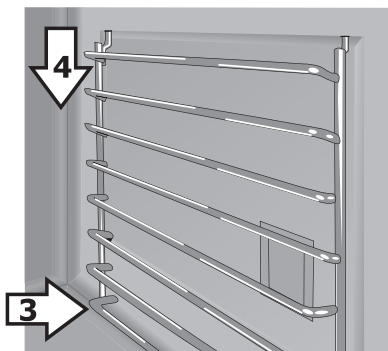

Figure 15: Ladder rack supports - bottom prongs
3. Once the upper prongs are in place, hold the oven rack support flush with the oven side and insert the bottom prongs into the bottom holes (Figure 15).
4. Slide the bottom prongs down into the lower holes. Some force may be required to set the rack into place (Figure 15).